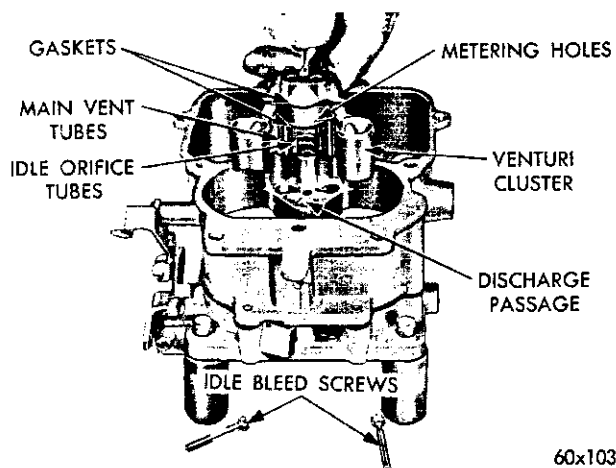

Fig. 9—Removing the Venturi Cluster
(10) Remove the venturi cluster idle bleed screws, then lift the venturi cluster and gaskets up and away from the main body, as shown in Figure 9. Discard the gaskets. Do not remove the idle orifice tubes or the main vent tubes from the cluster. They can be cleaned in a solvent and dried with compressed air.
(11) Invert the carburetor and drop out the accelerator pump discharge check ball.
(12) Remove the idle mixture adjusting screws and springs from the throttle body.
(5) Install new gaskets on the venturi cluster, and install in position in the main body (Fig. 9). Install the idle bleed screws and tighten securely. Test pump discharge by pressing pump plunger down. Two fine streams of fuel should be forced from the cluster. If either stream is restricted or diverted, remove cluster and reclean. After test, pour the fuel from the bowl and remove pump plunger.